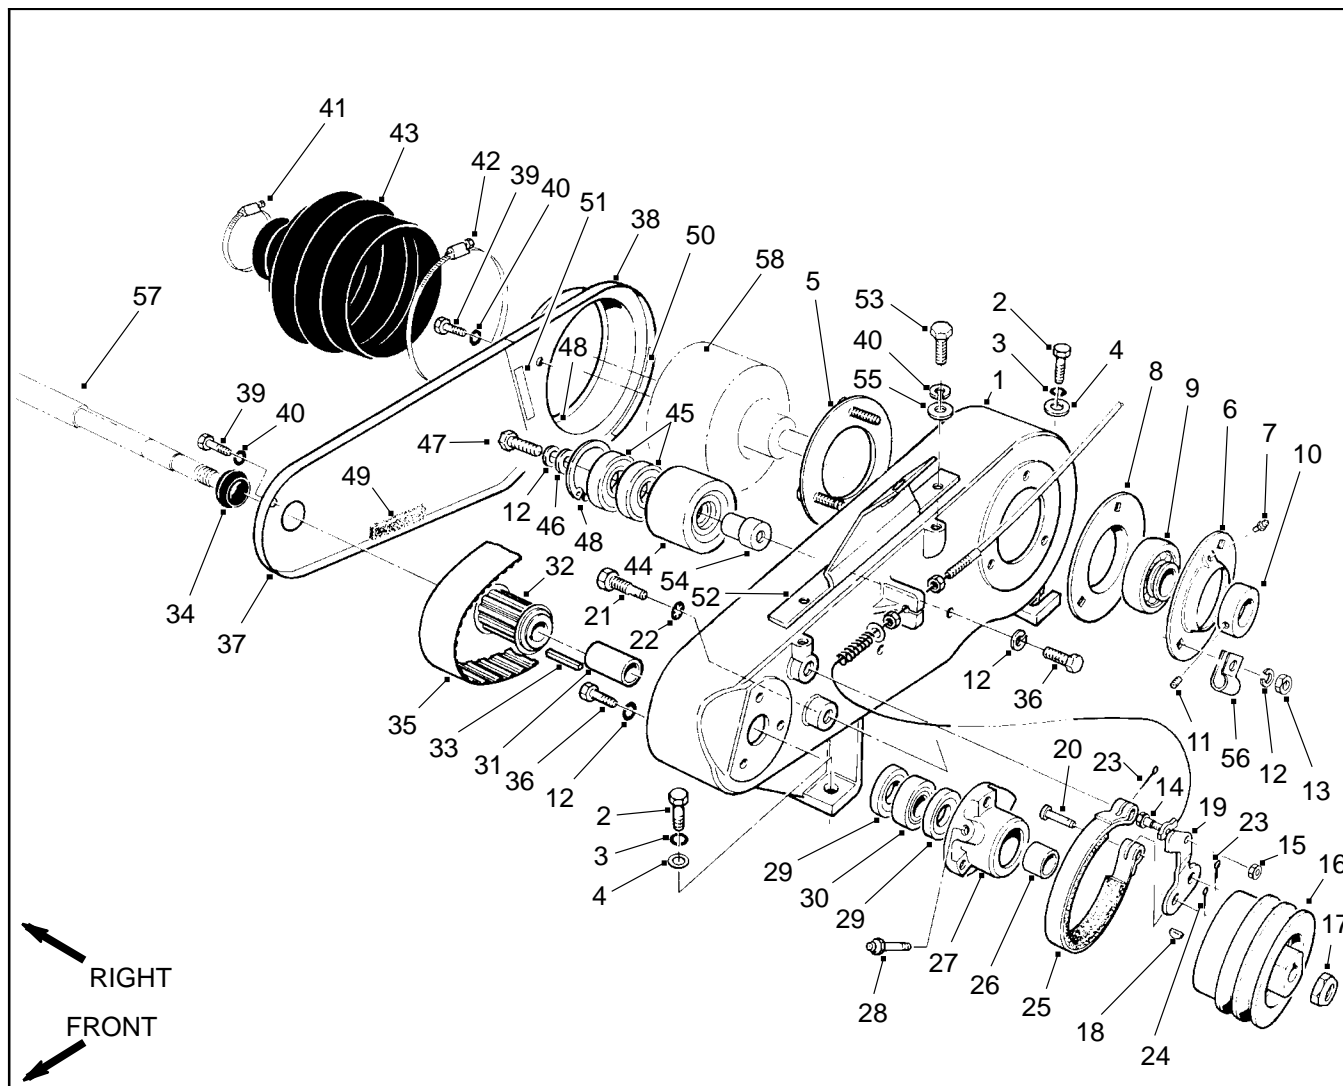

Figure 33
4. Remove lock nut (17) from power shaft (57). Slide input shaft pulley (16) off the shaft. Remove key (18) from the shaft (Fig. 33).
5. Remove brake band (25) from counter shaft housing (1) as follows (Fig. 33).
- A. Remove cotter pin (23) from the brake support (21).
- B. Remove cotter pin (24) and clevis pin (20) from the brake lever (19).
4. Apply never seize to the keyway area of the power shaft (57). Install key (18) to the shaft (Fig. 33).
5. Slide input shaft pulley (16) onto the power shaft (57) and through the brake band (25). Secure pulley to the power shaft with lock nut (17) (Fig. 33 and 35).
2. Remove cap screw (39) and lock washer (40) from the front box cover (37) and counter shaft housing (1). Remove cover from housing (Fig. 33).
3. Loosen cap screw (36) enough to rotate idler pulley (44) away from the belt (35). Loosen belt by rotating the idler pulley counterclockwise (Fig. 33).
4. Remove three cap screws (36) and lock washers (12) from the counter shaft housing (1) and bearing housing (27). Slide the bearing housing off the power shaft (57) (Fig. 33).
2. Slide the bearing housing onto the power shaft (57).
3. Secure three cap screws (36) and lock washers (12) through the counter shaft housing (1) and into the bearing housing (27) (Fig. 33).
6. Remove jam nuts (13), lock washers (12), and cable clip (15) from the studs of screw plate (5) (Fig. 33).